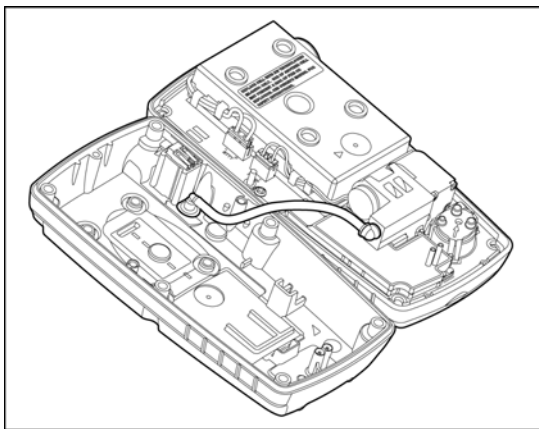

Figure 10. Front and Rear Shells Side by Side
- Figure 10, and
4. Because the pump hose is connected to the rear shell and front shell pump, carefully remove the rear shell by lifting upward and tilting to the left. The front and rear shells are laying flat side by side (Figure 10).